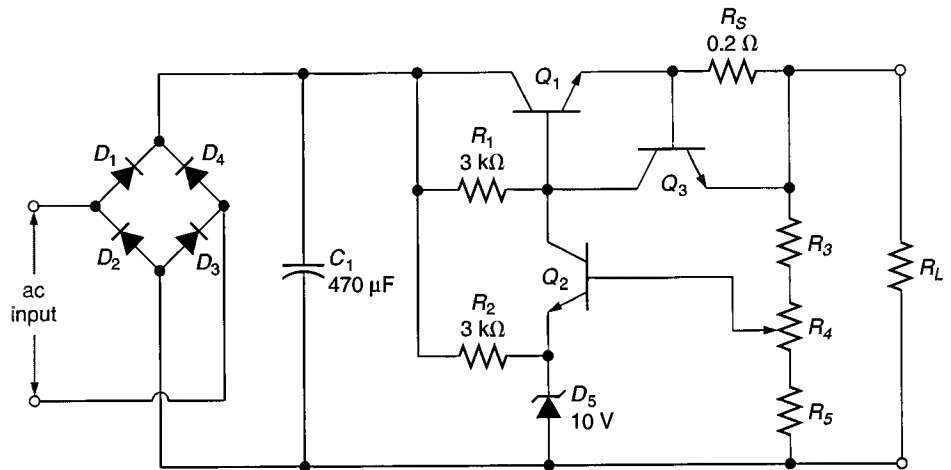

FIGURE 21.27
11. Determine the maximum possible value of load current for the circuit shown in Figure 21.27.
12. R_S in Figure 21.27 is changed to 1.2Ω . Determine the maximum possible load current for the new circuit.